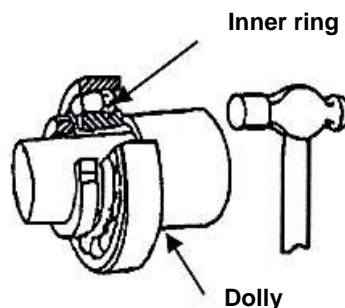

FIG 4.
- D. Place the driving dolly / mild steel punch against the **inner ring** of the bearing and tap the dolly / mild steel punch with a hammer until the bearing dislodges from the tapered sleeve. (Fig 4)